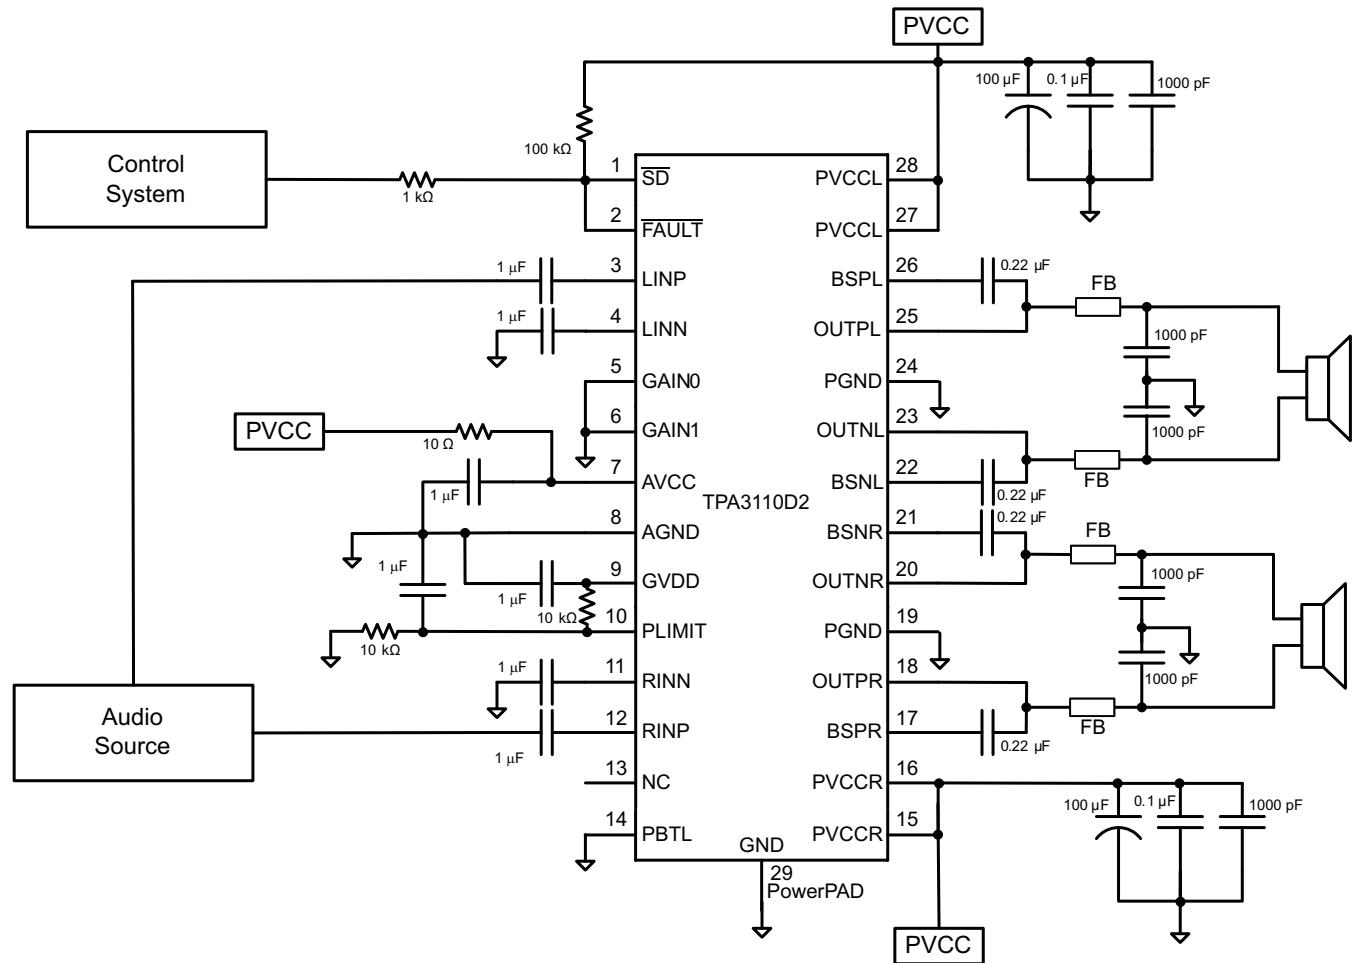
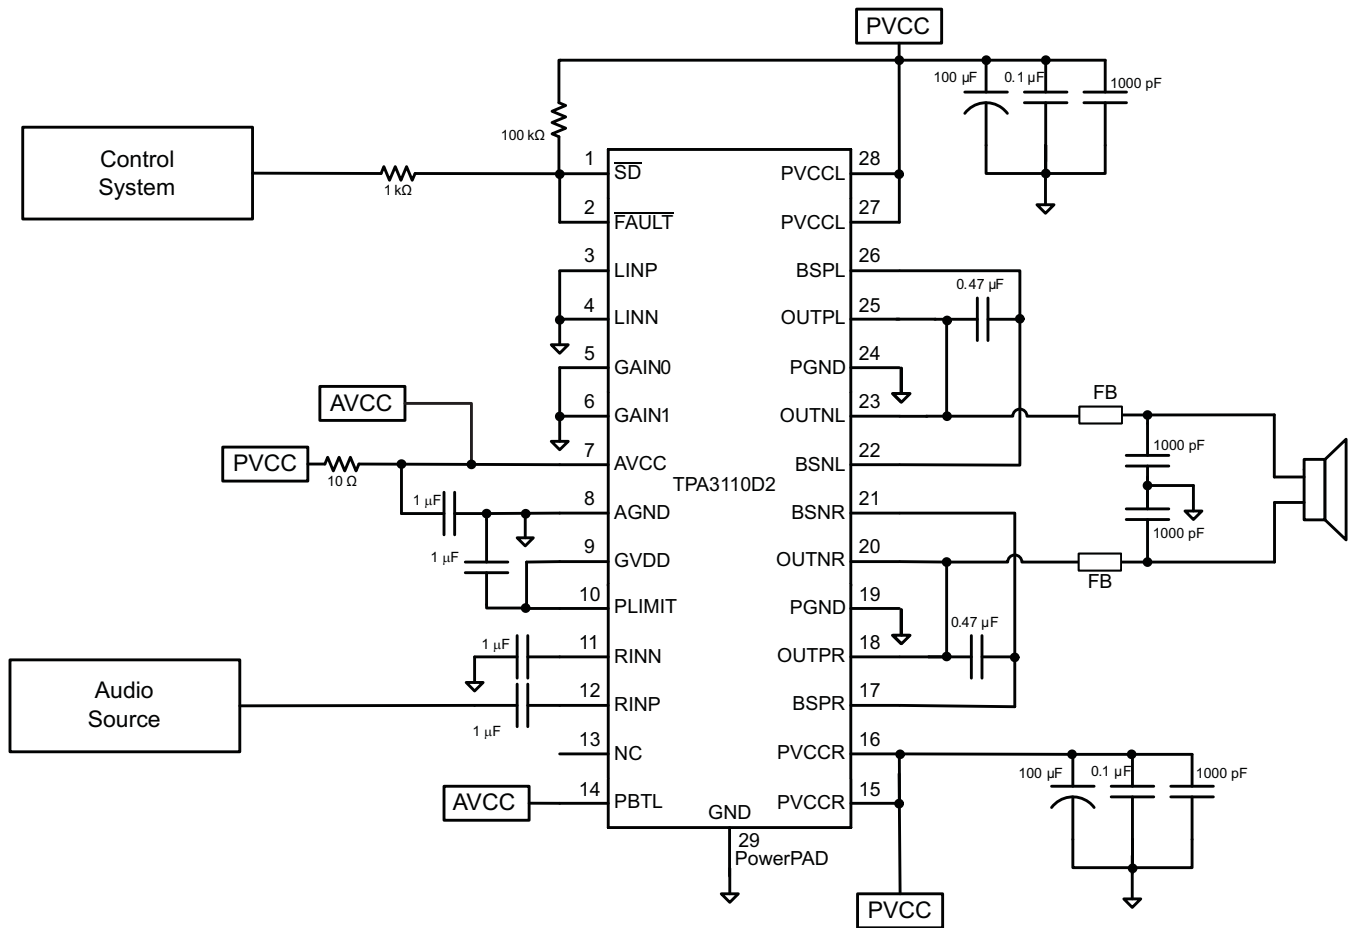

Figure 37. Stereo Class-D Amplifier with BTL Output and Single-Ended Inputs with Power Limiting
Figure 38. Stereo Class-D Amplifier with PBTL Output and Single-Ended Input
• Changed Changed the Stereo Class-D Amplifier with BTL Output and Single-Ended Input illustration Figure 37 - Corrected the pin names. • Changed Changed the Stereo Class-D Amplifier with PBTL Output and Single-Ended Input illustration Figure 38 - Corrected the pin names.	20 21
• Added slew rate adjustment information • Added AVCC to Pin 7 of Figure 38	16 21